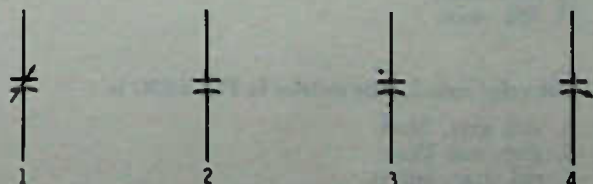

Fig. 2-22. Symbols for Question 28.
28. In Fig. 2-22, which capacitor symbol would you take to indicate an electrolytic type?